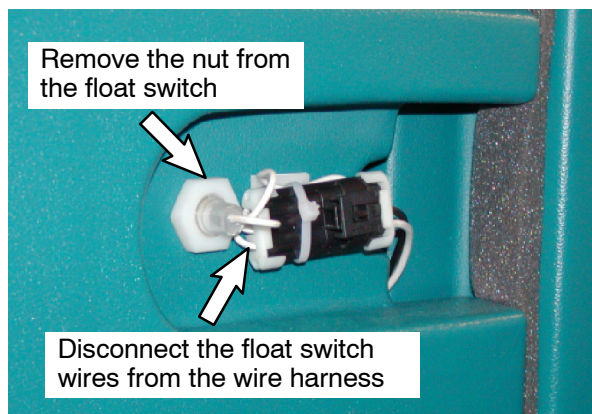
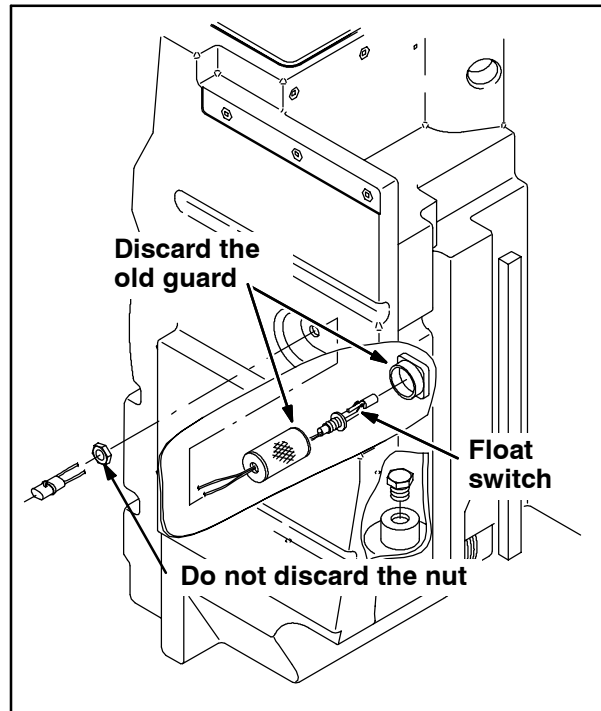

FIG. 1
FIG. 2
6. Disconnect the float switch wires from the wire harness. Refer to Fig. 1.
7. Remove the nut from the float switch and pull the float switch and guard (if equipped with a guard) out from the recovery tank. **Do not** discard the nut since it is needed to reinstall the float switch. Discard the guard. Refer to Fig. 1 and Fig. 2.